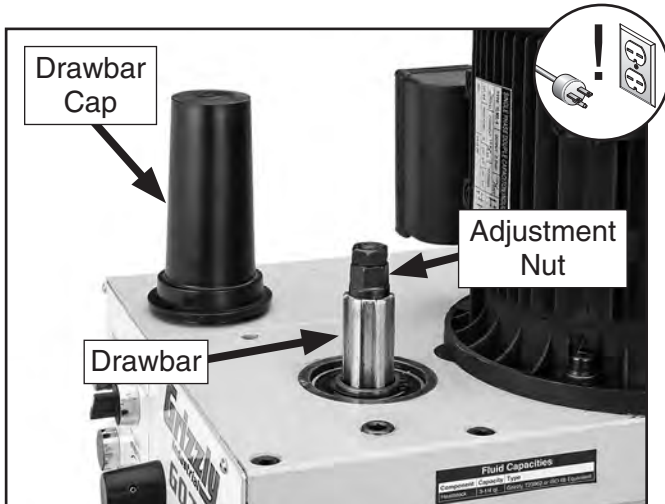

Figure 24. Drawbar components.
2. Remove drawbar cap, as shown in **Figure 24**.
Note: Height of drawbar inside spindle can be changed by rotating adjustment nut (see **Figure 24**).